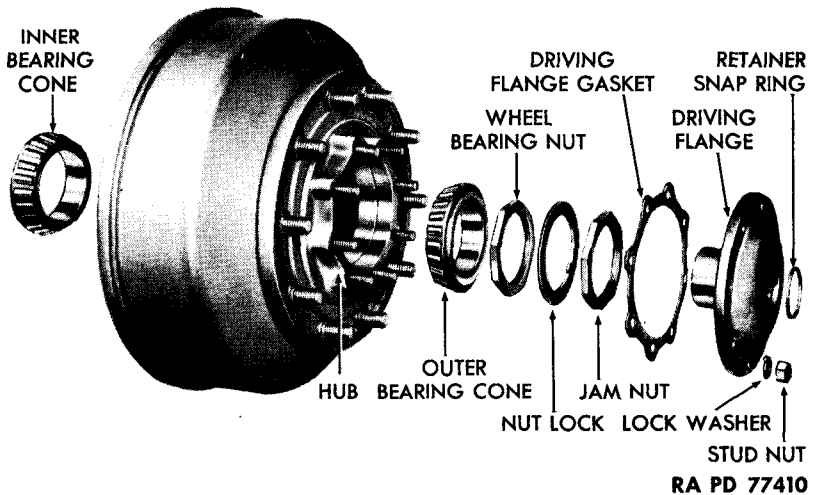

Figure 81 — Front Hub Disassembled
a. Description (figs. 81 and 82). The hubs and wheel bearings are attached at each end of the front and rear axle shafts. The hub assembly is installed on bearings, and secured by a bearing nut. Bearings are packed with lubricant to reduce friction. A felt oil seal and
b. Adjustment (figs. 81 and 82). Block wheels to prevent vehicle from moving, and raise wheel from floor with lifting device. Remove retainer snap ring from front hub. Remove the 8 stud nuts and lock washers which secure axle shaft driving flange to hub assembly, and remove flange and gasket. **NOTE:** For rear axle, remove the 12 stud nuts and lock washers, and remove axle shaft. Remove wheel bearing jam nut and the nut lock, which is called jam nut washer on rear axle. Rotate wheel alternately in both directions while tightening wheel bearing nut until wheel binds. Back nut off about one-quarter turn to permit free rotation of wheel without excessive play.
c. **Removal** (figs. 81 and 82). Remove wheel (par. 133). If front wheel, pry retainer snap ring from driving flange, and remove driving flange jam nut and nut lock. If rear wheel, remove rear axle shaft with attached driving flange as follows: Remove wire seal attached to the 2 axle shaft puller screws. Remove the 12 nuts, lock washers, 3 dowels, and dowel washers which secure flange to hub assembly. Tighten puller screws to start shaft out. Pull shaft and attached flange from axle, and remove wheel bearing nut. Pry wheel outer bearing cone alternately on each side, remove, and pull hub out. Pry off wheel inner bearing cone, and remove felt oil seal and the 2 retainer washers. Remove the 10 stud nuts from inner ends of wheel attaching studs, and lift brake drum from hub. Use a clean cloth to wipe lubricant from all parts.
d. **Installation** (figs. 81 and 82). Position brake drum on hub, and install the 10 stud nuts which attach drum to hub. Install new felt oil seal and 2 retainer washers. Soak felt thoroughly with new engine lubricant, and pack bearings with lubricant (par. 17). Fit wheel inner bearing cone to shaft, taper out, and install hub. Fit wheel outer bearing cone to shaft, taper in, and screw bearing nut on shaft. Finish wheel installation (par. 133). Install rear axle shaft, and attach driving flange as follows: Screw out puller screws to original position. Position shaft in axle, and install the 12 nuts, lock washers, 3 dowels, and dowel washers which secure it to hub assembly. Wire rear axle puller screws. Install wheel (par. 133).
(1) **DESCRIPTION** (fig. 81). Tires are 10-ply, lug-tread, bus-balloon type.